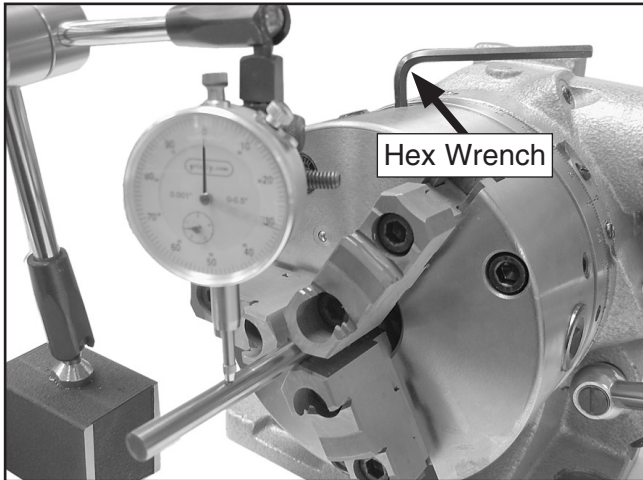

Figure 8. Using a dial indicator to center the chuck.
4. Mount a dial indicator next to the chuck so that the plunger is perpendicular to the mandrel and just touching it, as shown in **Figure 8**.